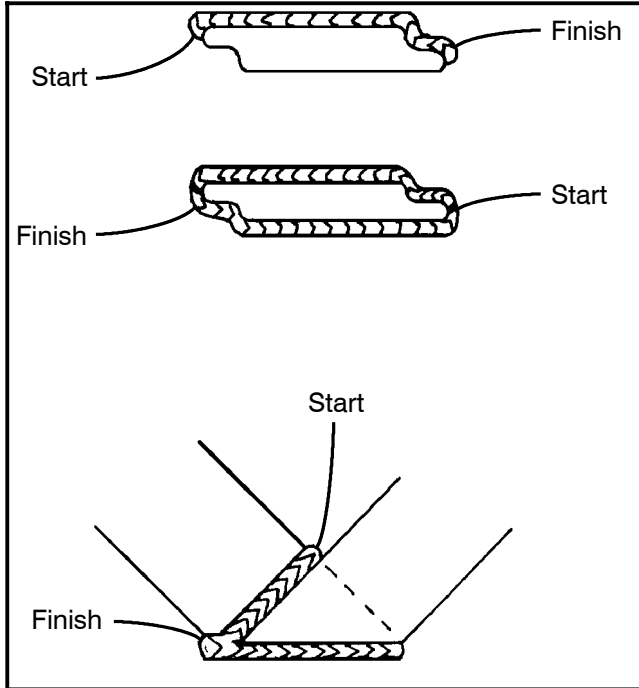
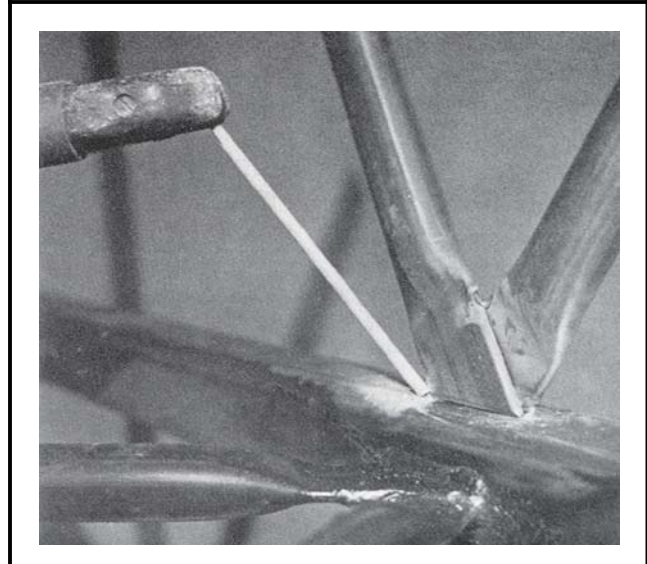
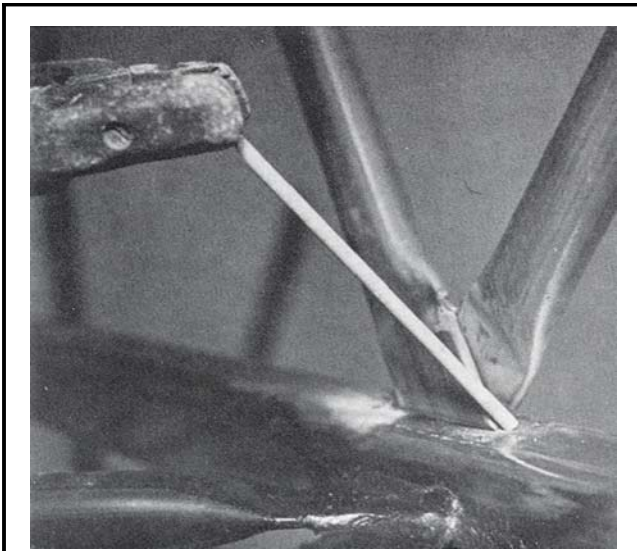
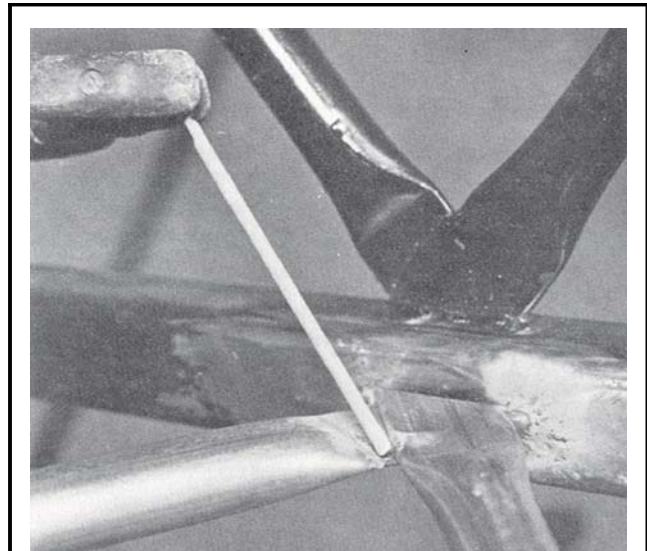

Figure 25
Figure 31
Figure 30
Figure 32
Flattened end connections - Figure 25, Figure 30, Figure 31, and Figure 32.
- Flattened end connections - Figure 25, Figure 30, Figure 31, and Figure 32